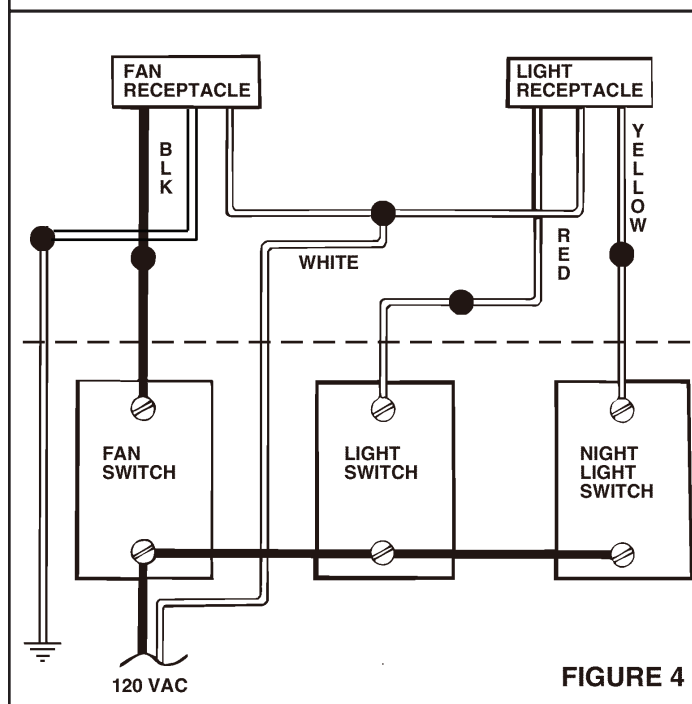

FIGURE 4
1. Run 120vAC house wiring (with ground) from wall switches to fan location. See Figure 4.
4. **Refer to Figure 4.** Connect white wires from the fan and light receptacles to white (neutral) wire from the supply. Connect black wire to wire from fan switch. Connect red wire to wire from light switch. Connect yellow wire to wire from night light switch.